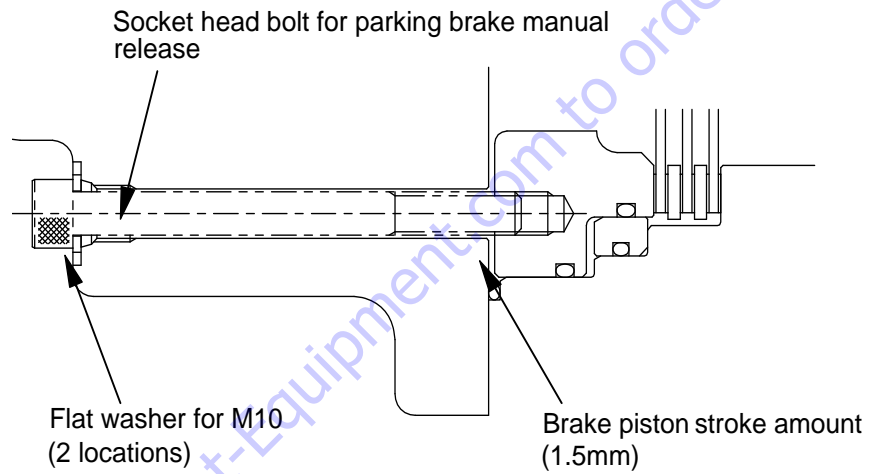

Figure 5-14. Procedures for Manually Releasing Parking Brake (step 2)
2. Install socket head bolts (M10 x 1.5 x 110 L) for parking brake manual release and flat washers (for M10) in two locations of parking brake manual release ports. (Refer to Figure 5-14.)